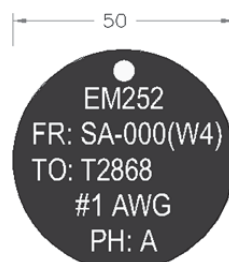

Figure-7 Primary Cable Identification Tags in Manhole (Example)
- Figure-7 Primary Cable Identification Tags in Manhole (Example)
The tags shall be attached on incoming and outgoing sections of cables in manholes. See para. 2.2.1.d. Cable Identification Tags for material, size, font. The lettering on tags shall be complied with below examples, Figure-7 Cable Identification Tags in Manhole.